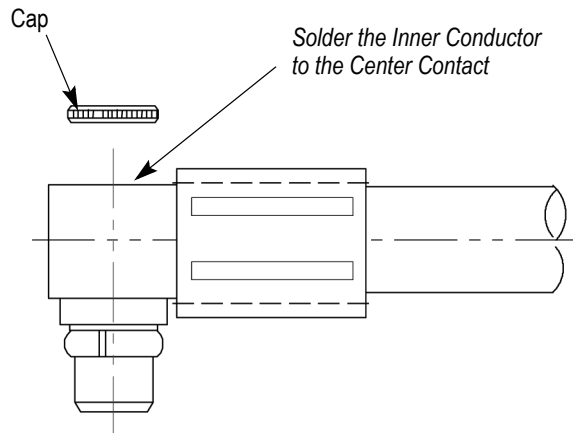

Figure 6
7. Place cap on top of the housing assembly as shown in Figure 6. Press the cap firmly in place.